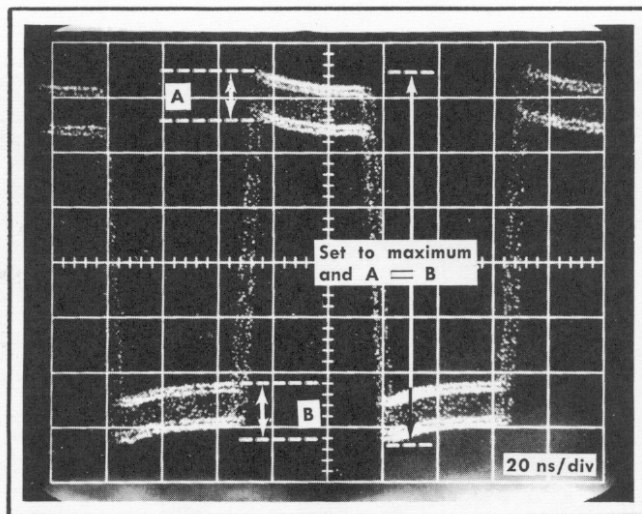

Fig. 5-5. Fine adjustment of Avalanche Volts and Snap-Off Current, step 3.
g. Set the sampling sweep unit Start Point switch to Before Trigger, the sweep rate to 20 ns/div (Time Magnifier switch to ×5) and obtain a triggered display. The display may show greater than unity loop gain as a double trace. See Fig. 5-5.